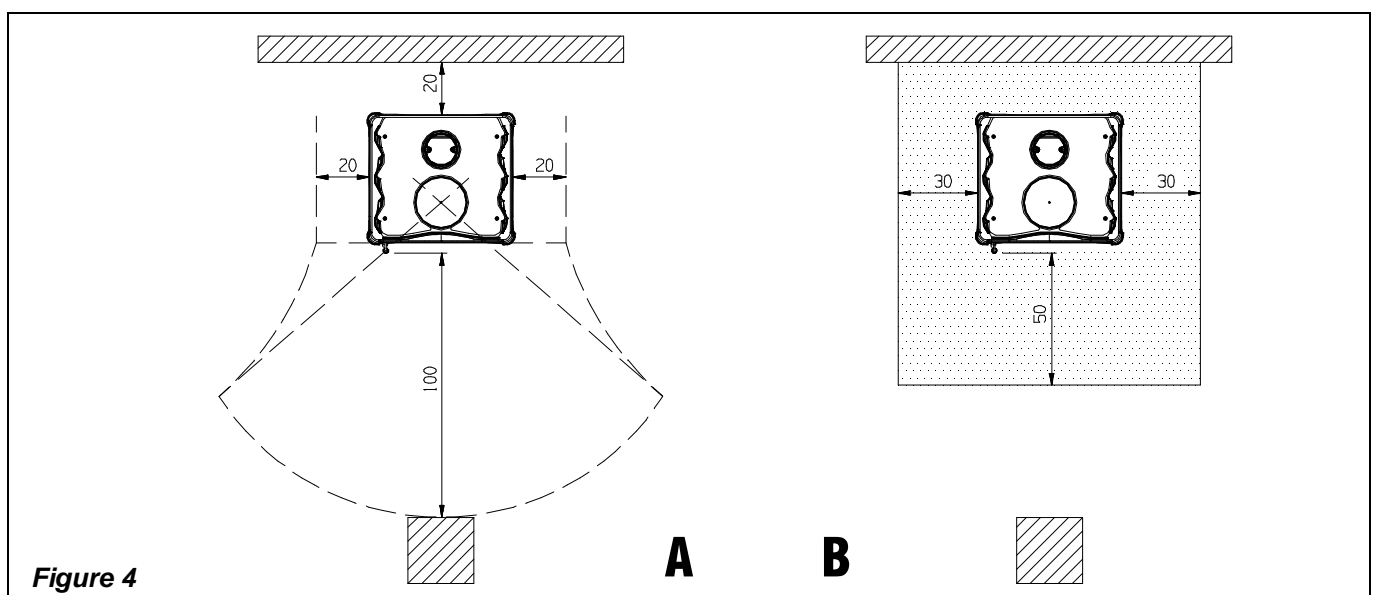

Figure 4
- The minimum distance from construction elements and inflammable and heat-sensitive objects (furniture, wooden coverings, materials etc.) must be **20 cm** from the rear and both sides; in order to ensure sufficient heat insulation (see Figure 4 A).
- Whenever the thermoheating stove is installed on a floor made from inflammable material, a non - flammable sub-base must be envisioned, e.g. a steel platform (dimensions according to regional provisions). The sub-base must project frontally by at least **50 cm** and laterally by at least **30 cm** beyond the opening of the loading door (see Figure 4 B).